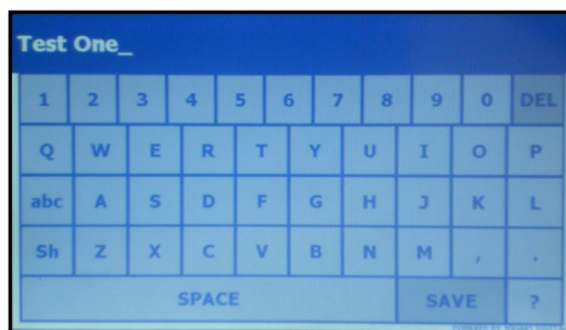

Figure V-13: FastPrep-24™ 5G Keypad
1. Press [SAVE] at the bottom of screen. The FP-24 5G will automatically display a keypad (Figure V-13).